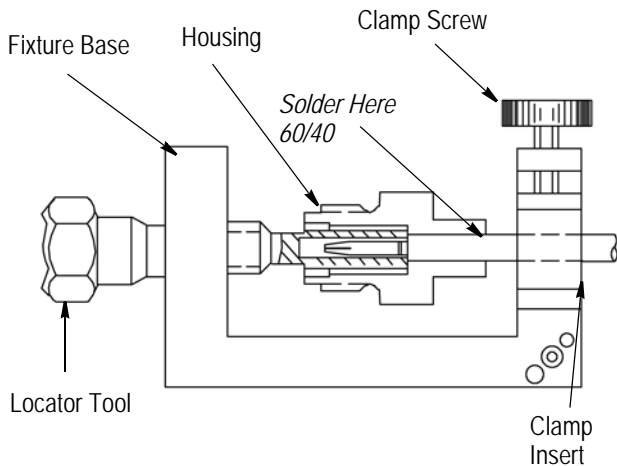

Figure 4
**3.3. Soldering of Cable Sub-Assembly to Housing** (Figure 4)
2. Place loose assembly in fixture base as shown in Figure 4.